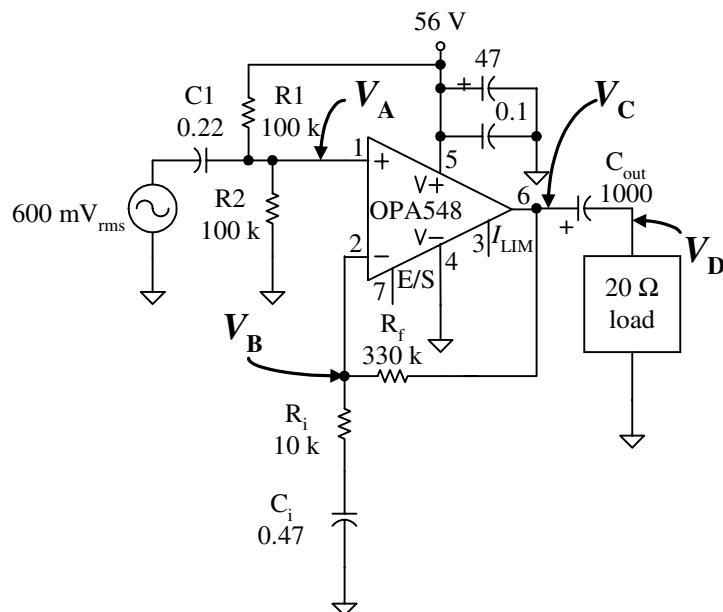

Figure 4-25 Schematic for Problem 4-1
- 4-1** For the circuit in Figure 4-25, calculate the dc and rms values of each of the four indicated voltages.
- 4-2** Explain the purpose of each of the following components in Figure 4-25: C₁, R₁, R₂, C_i, and C_{out}